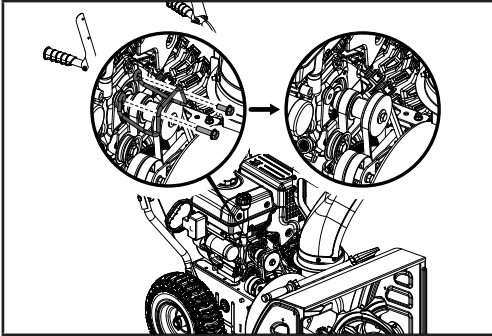

Figure 38
- Remove the 2 bolts (20 mm/30 mm) holding the belt guard (Fig. 38). Note the spring is loose at this point.